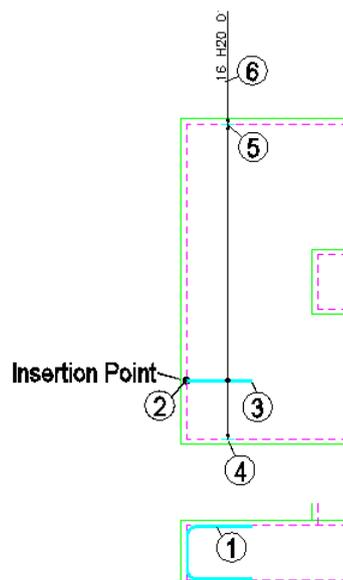

Figure 3.6.15:1 Single Indicator Range Placing Order
- ▶ Pick the points as indicated on figure 3.6.15:1 below starting with point 2, to place the Bar View and the Range Line. The range offsets should be set to 0.0. Set the *Centre Spacing* at 200 and answer Yes to placing the Bar Label